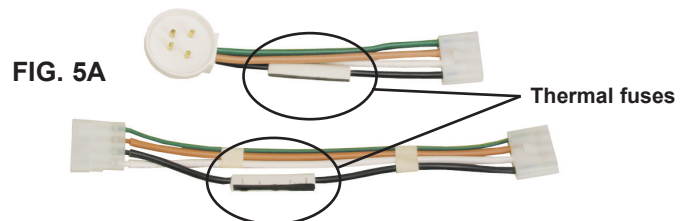
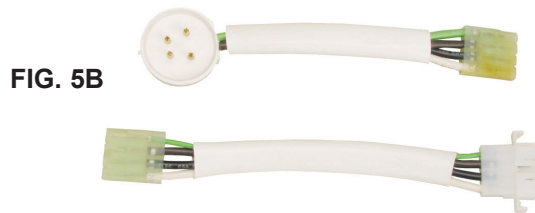

FIG. 5A
FIG. 5B
5. If the harness from the defective unit has a thermal fuse, as shown in Figure 5A, reuse the harness. If the harness does not have a thermal fuse or the thermal fuse is blown, as shown in Figure 5B, you must purchase a new wiring harness.